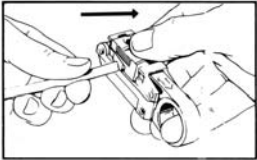

Figure 8
G. Moves lide back one position. Then pull cable out carefully while squeezing tool (Fig. 8). If there is too much resistance or strip is imperfect, go to step "H".